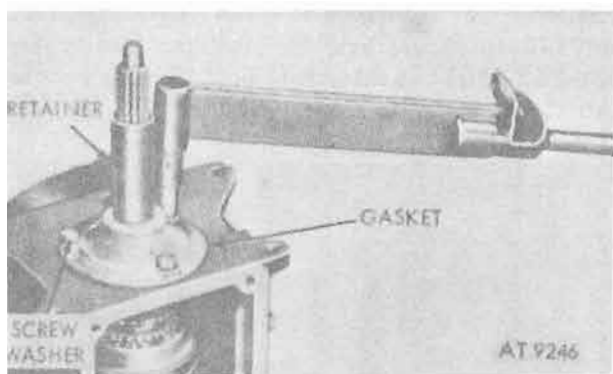

Figure 8-113. Installing input shaft bearing retainer.
f. Install input bearing retainer gasket, using sealer (5330-252-3391), and position input shaft bearing retainer to transmission case. Install and tighten retaining screw and washer assemblies (fig. 8-113). Apply sealer to threads before installation.
g. Torque bearing retaining screw assemblies to 10-14 lb.-ft. (fig. 8-113).